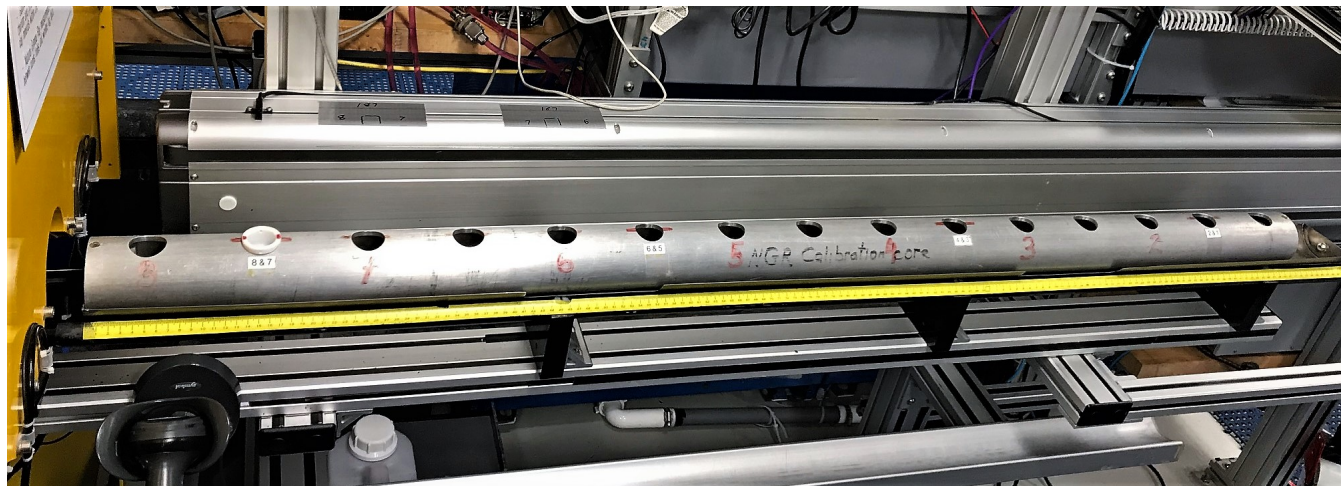

Figure 5. Proper positioning of the NGR metal core and the plastic source holder for performing a calibration.
1. Place the metal core into the boat, ensuring that hole 8 is closest to the logger (*Figure 5*).